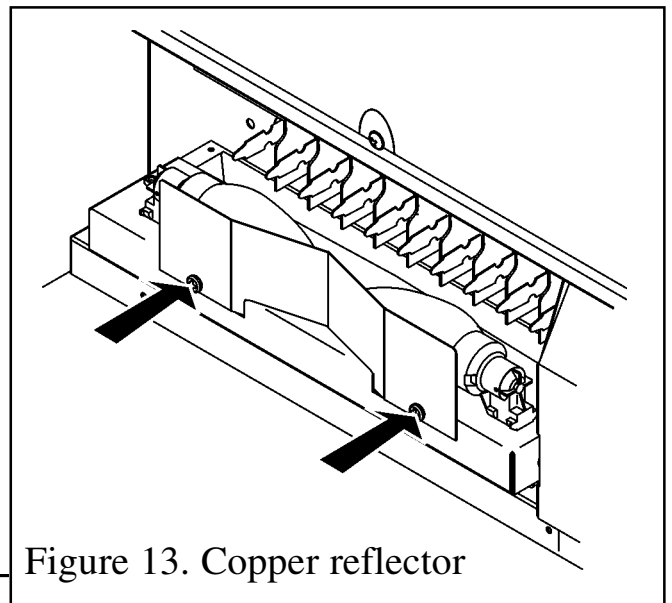

Figure 13. Copper reflector
3. Unscrew and remove the copper reflector plate (See figure 13).